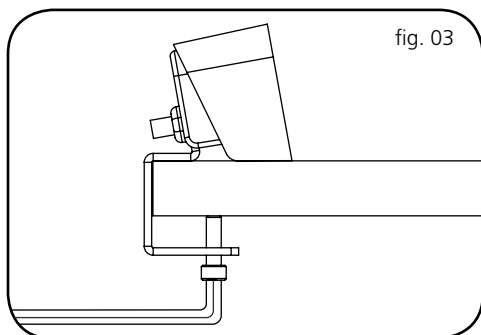

fig. 03
3. Tighten the C clamp bolt with a 5mm Allen key (not supplied). Do not use power tools (fig. 03).